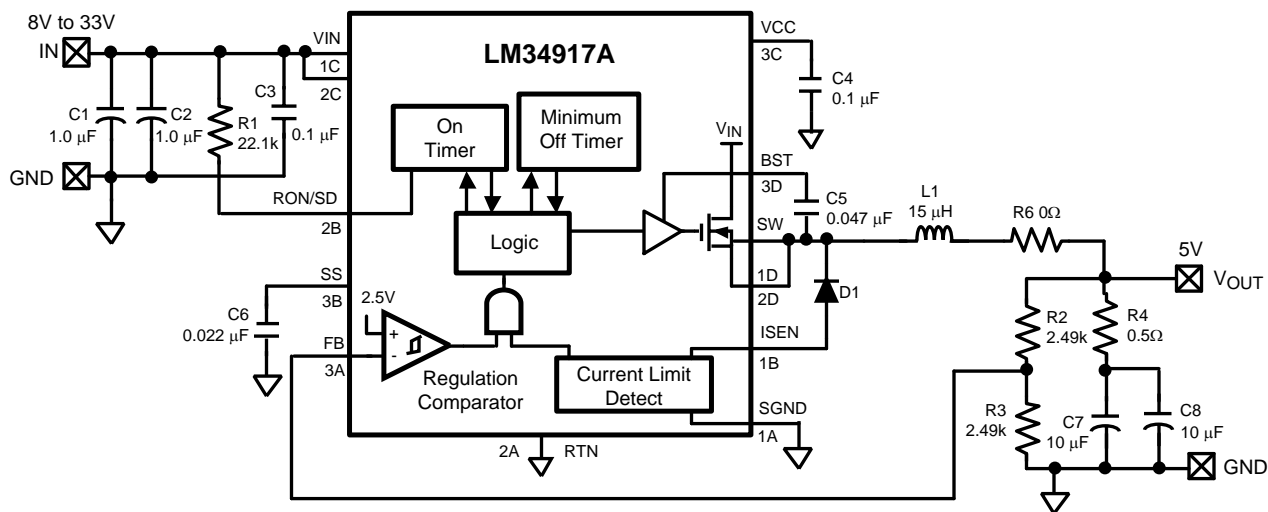

Figure 4. Lowest Cost Configuration
C) Lowest Cost Configuration: This configuration is the same as option B, but without C_f. Since ≥ 25 mVp-p are required at the FB pin, R₄ is chosen to generate ≥ 50 mV at V_{OUT}, knowing that the minimum ripple current in this circuit is 105 mA_{p-p} at minimum V_{IN}. Using 0.5 Ω for R₄, the ripple at V_{OUT} ranges from ≈ 80 mVp-p to ≈ 150 mVp-p over the input voltage range. If the application can tolerate this ripple level, this is the most economical solution. The circuit is shown in Figure 4.